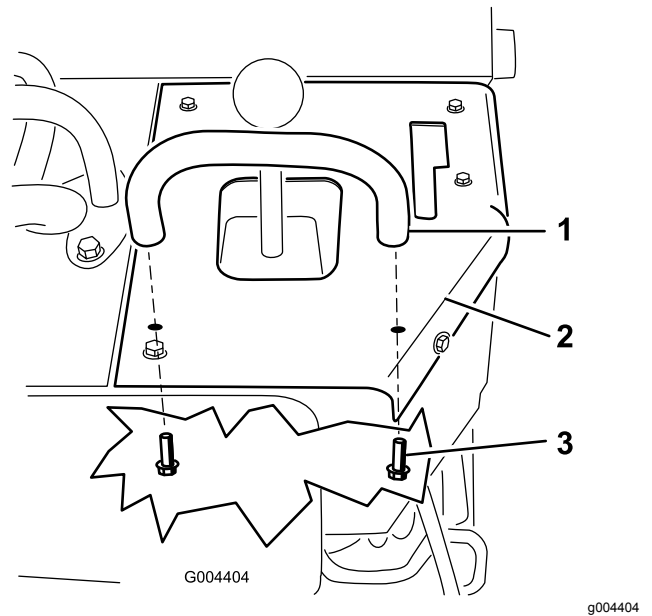

Figure 9
3. Secure the handle to the control panel using 2 flange-head bolts (5/16 x 3/4 inch) installed from the inside (Figure 9).